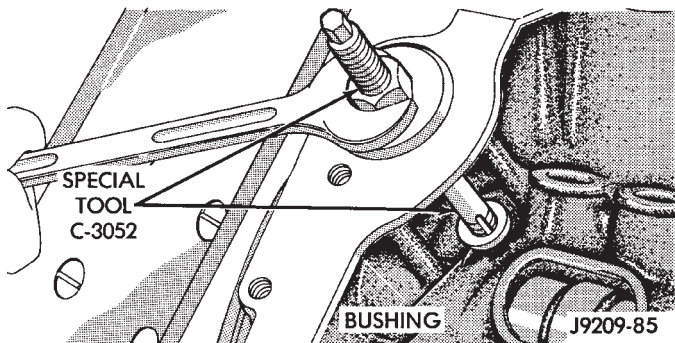

Fig. 34 Distributor Driveshaft Bushing Removal
(2) Remove the intake manifold (refer to Group 11, Exhaust System and Intake Manifold).
(3) Insert Distributor Drive Shaft Bushing Puller Tool C-3052 into old bushing and thread down until a tight fit is obtained (Fig. 34).
(4) Hold puller screw and tighten puller nut until bushing is removed.